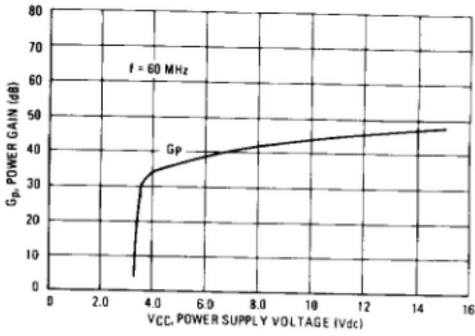

FIGURE 10 — REVERSE TRANSFER ADMITTANCE versus FREQUENCY
*The value of Reverse Transfer Admittance includes the feedback admittance of the test circuit used in the measurement. The total feedback capacitance (including test circuit) is 0.025 pF and is a more practical value for design calculations than the internal feedback of the device alone. (See Figure 10.)